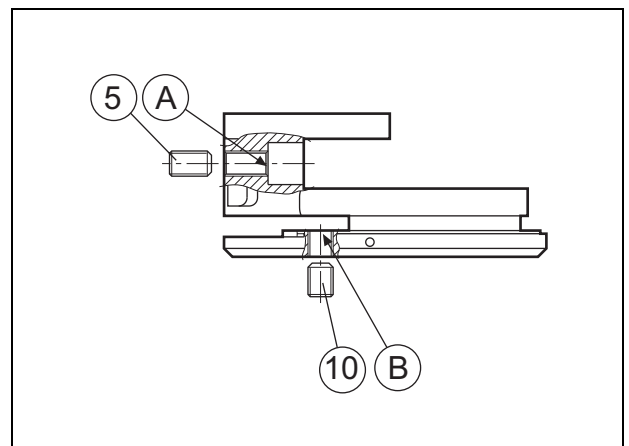

Fig. 47 Stop screws in bar holder
7. The stop screw (5), W = 6mm, must never be screwed in further than to the back edge (A) of threaded hole. *See Fig. 47.*
8. Lock the stop screw (5) with the locking device and stop screw (6), W = 4 mm.
9. Tighten the guide screw (8) to the bottom, then tighten the stop screw (7) until it stops on the guide screw (8).
10. Lock the stop screw (7) with stop screw and locking device (9). Stop screw (10) must be tightened and locked with thread sealant at a distance of 1.5 mm (0.06") from the inside edge (B). *See Fig. 47.*